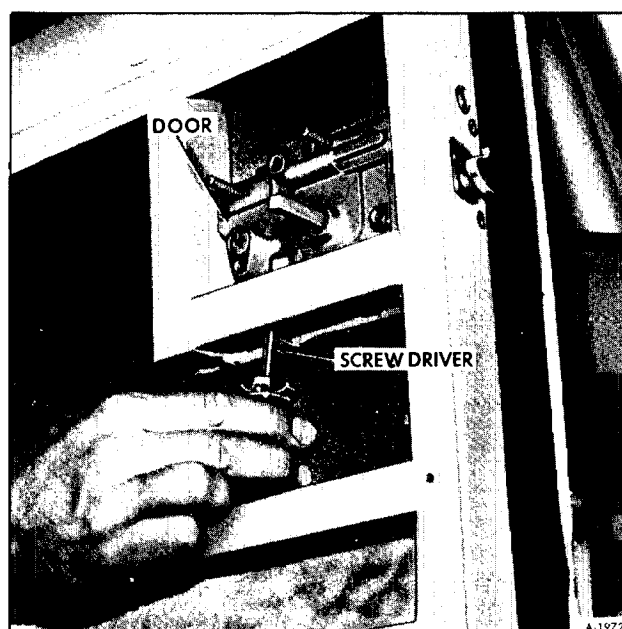

Figure 19-Removing Screw on Type II Lock
4. Remove screw as shown in Figure 19. Push lock out from the inside.